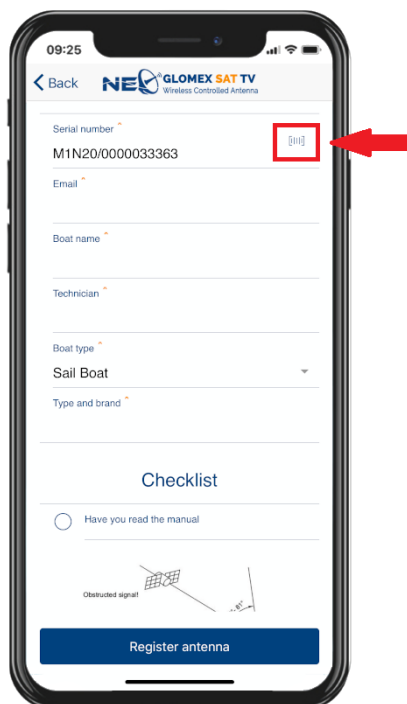

Fig. 47
- Click on the bar code button on the top right (Fig. 47), scan the bar code on page 2 of your antenna's user manual, on the package box, on the rear of the control unit and on the parabolic disc. Fill in the missing data and the installation check list to complete registration.